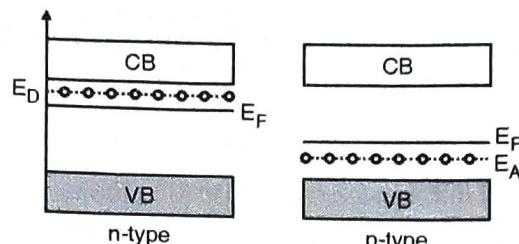

Fig. 3.9.1 : Position of Fermi-level in n-type and p-type semiconductor
- When p-n junction is being formed, both materials will find their Fermi levels non-aligned as shown in Fig. 3.9.1 and they must be aligned.